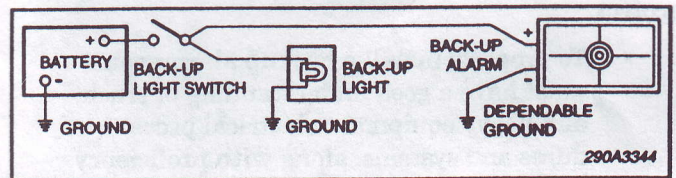

Figure 2.
4. Using two 16 GA user-supplied wires, complete the wiring as shown in figure 2. The plus (+) and minus (-) connections are marked on the housing.